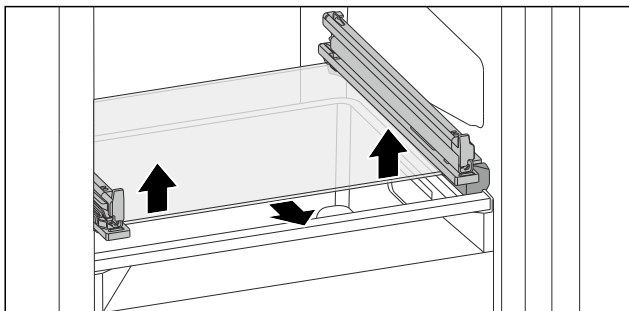

Fig. 140 Tilting drawer glass shelf
- Push glass shelf upwards from below on both sides. (see Fig. 140)